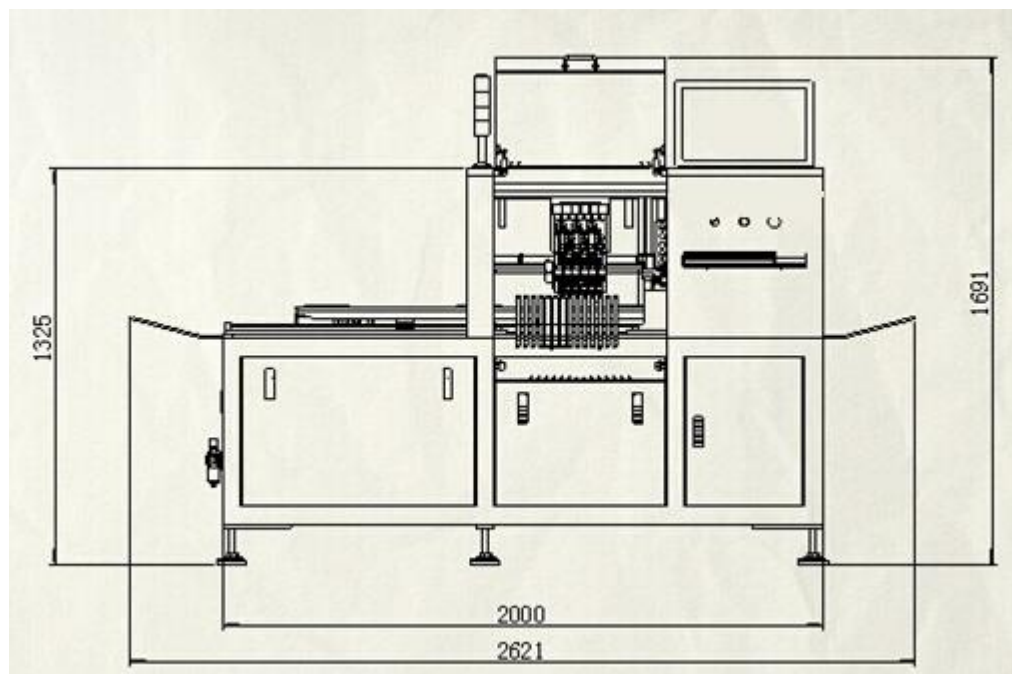
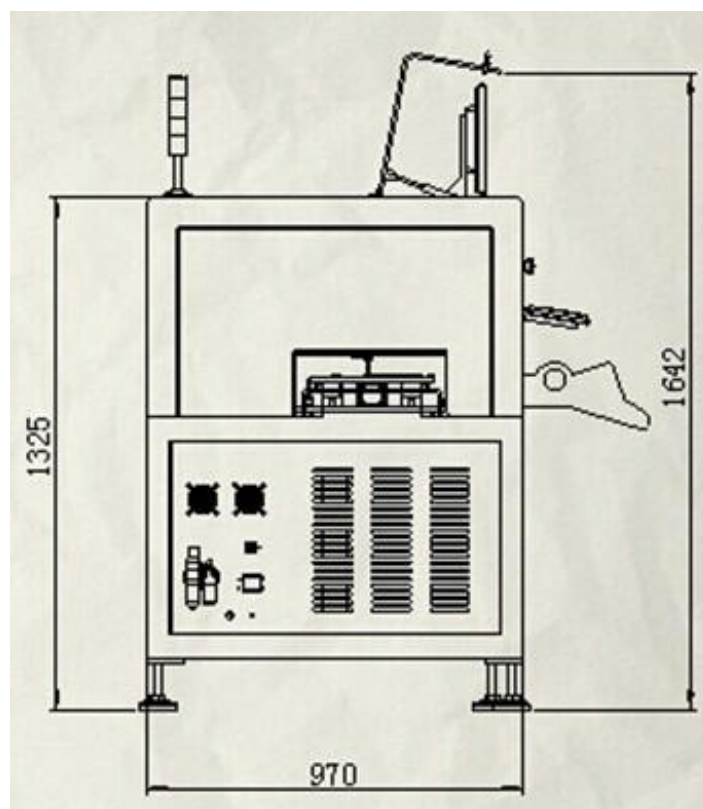

FIGURE 1: Front view
FIGURE 2: Side view
1) Dimensions as FIGURE 1、FIGURE 2